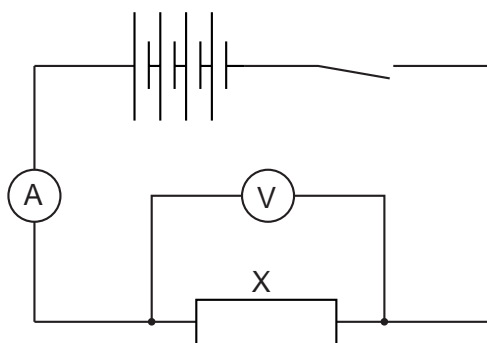

Fig. 3.1
- (ii) The Supervisor should set up the circuit as shown in the Fig. 3.1 with the resistor X in the circuit. The switch should be open i.e. the circuit should not be complete.
- (iii) At the changeover, Supervisors should remove the resistor Y from the circuit and ensure that it is set up as shown in Fig. 3.1. Supervisors should check that any cells used in the circuit have not run flat and that the switch is open.